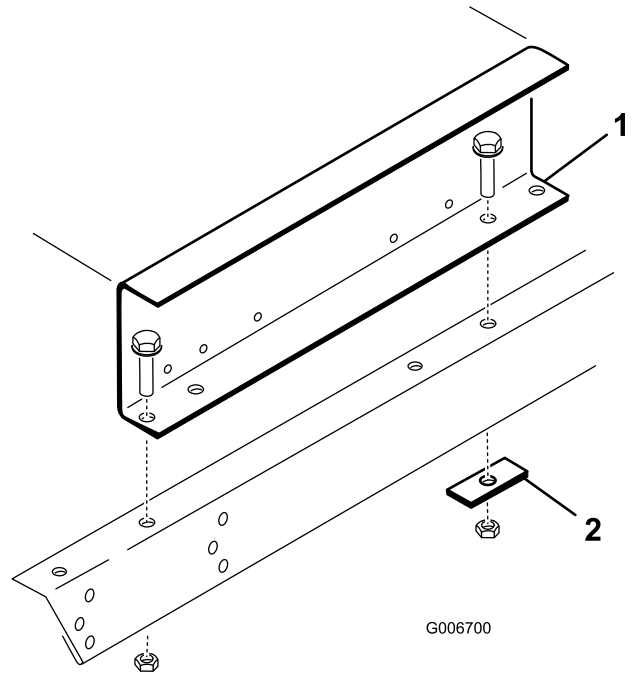

Figure 15
4. Mount each side of lift to frame channels with a reinforcing plate and (2) 3/8-16 x 1" large flange head capscrews and flange nuts (Figure 15). Reinforcing plates to be used in rear mounting holes only.